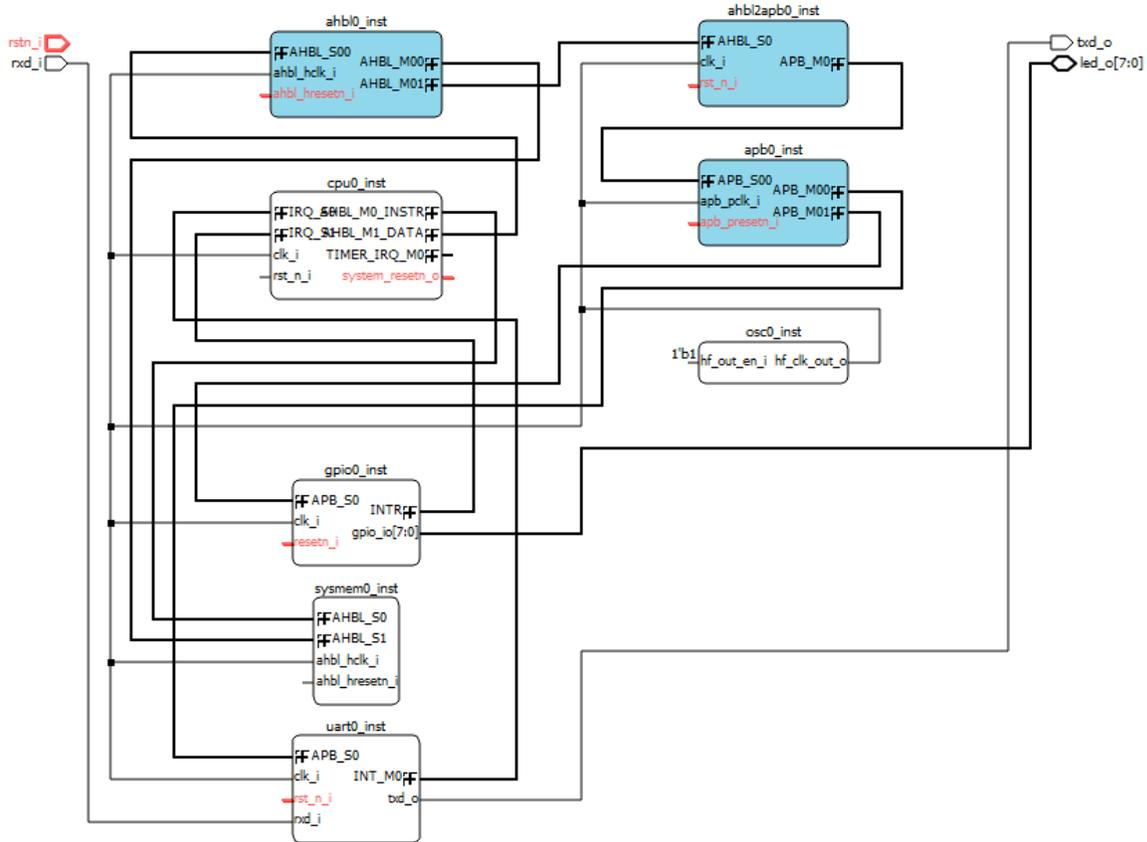

Figure 2.54. Select More than One Ports
- You can connect multiple ports once. When more than one port are selected (Figure 2.54), click **connect**  from the right-click menu to implement it.